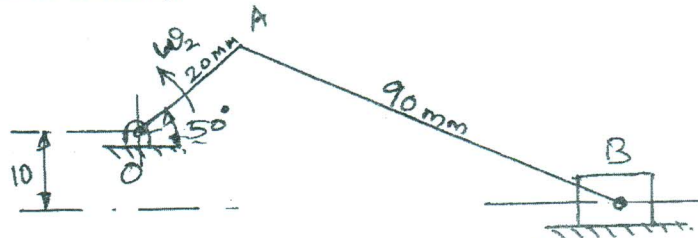

Fig.Q5
- 5 For an offset slider crank mechanism shown in Fig.Q5, write the loop close equation and determine the expression for,